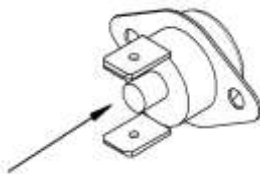

Figure 21 Safety thermostat
3. Press small button on thermostat (Figure 21). Place cover back.